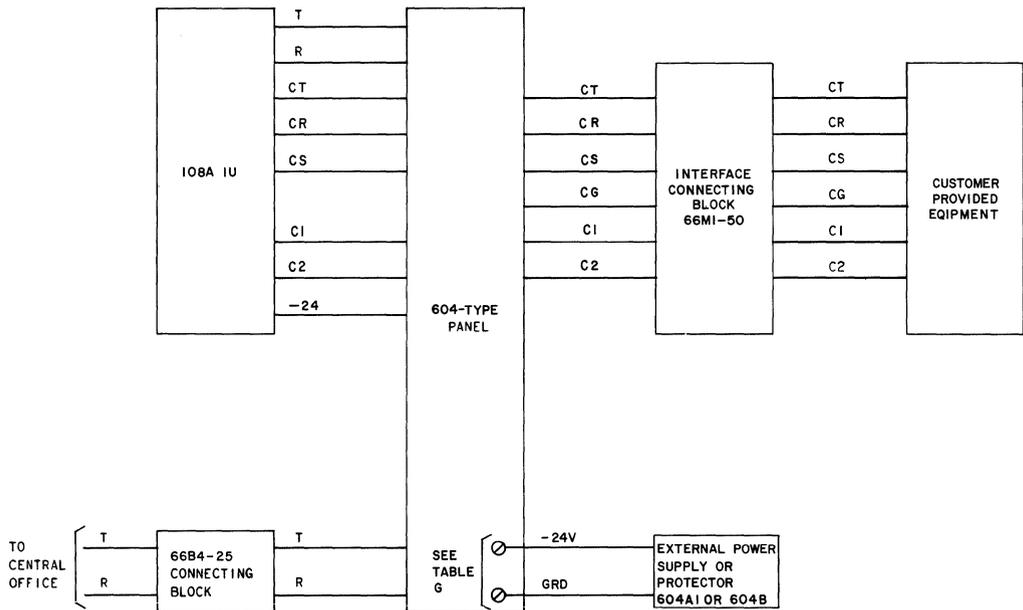
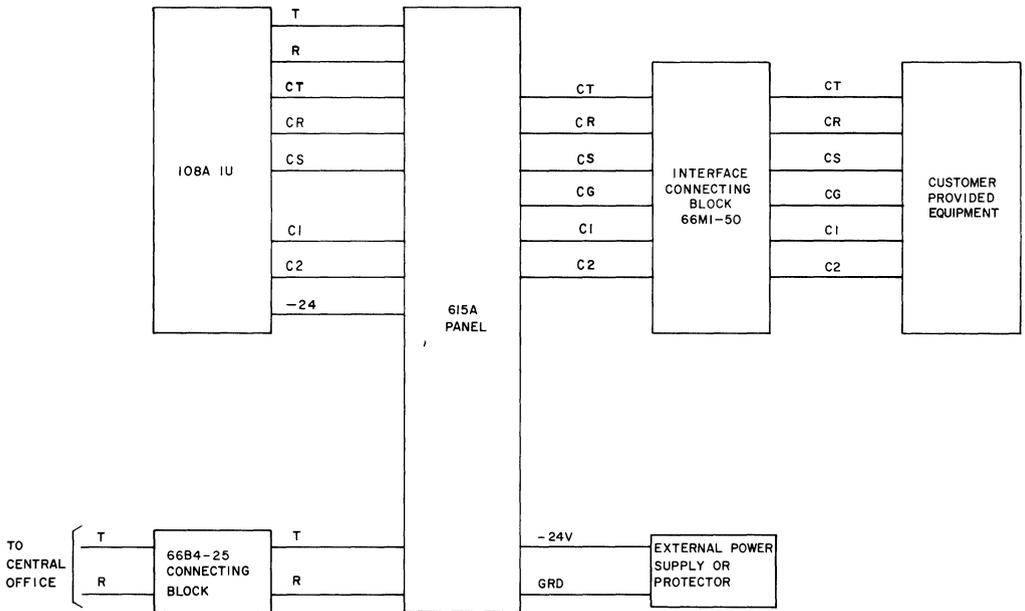

Fig. 7—Block Diagram—108A Interconnecting Unit With 604-Type Panel
Fig. 8—Block Diagram—108A Interconnecting Unit With 615A Panel
**604-Type Panel (Fig. 7 and Tables B, C, D, E, F)**
**3.07** When using an external power supply (604A1 or 604B panel only) connect to fuse panel on rear of panel as shown in Fig. 7 and Table I (use 16-gauge or equivalent twisted pair). Refer to the appropriate section in Division 518 for proper grounding of power plants. Proper grounding of equipment and power unit is important to prevent damage from power line surges.
**615A Panel (Fig. 8 and Tables G, H, and I)**
3.15 When power is supplied by a CP dc power source, protection is required. The KS-20944 protector must be mounted externally and wired to the fuse panel on rear of 604 panel (Fig. 7) or ⚡615A panel (Fig. 8).⚡
**6.04** For connection information using 615A panel, refer to Fig. 8, 10, Tables G, H, and I.